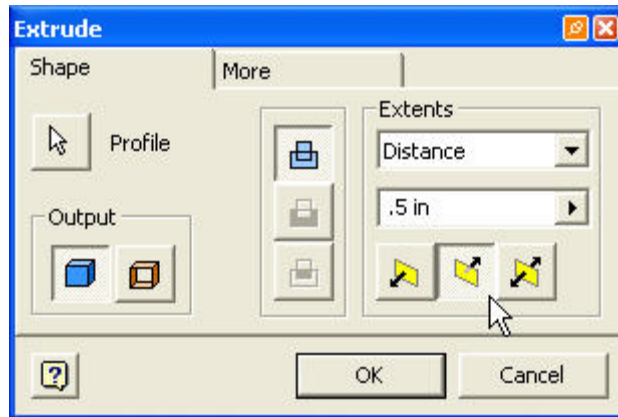

Figure 11
9. Set the distance as .5 in and select the middle button with the arrow pointing up and away from the yellow plane as shown in Figure 11.